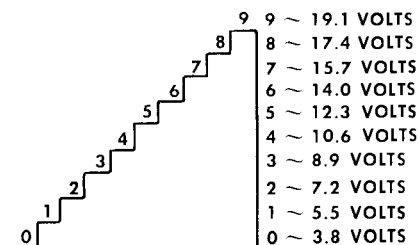

Fig. 6-3. Staircase voltages at pins 10, 7, 11 and 2 of the Upper Limit No-Go board.
- d. Set the generator frequency to approximately 2 kc and adjust the test oscilloscope for a staircase waveform as shown in Fig. 6-3.